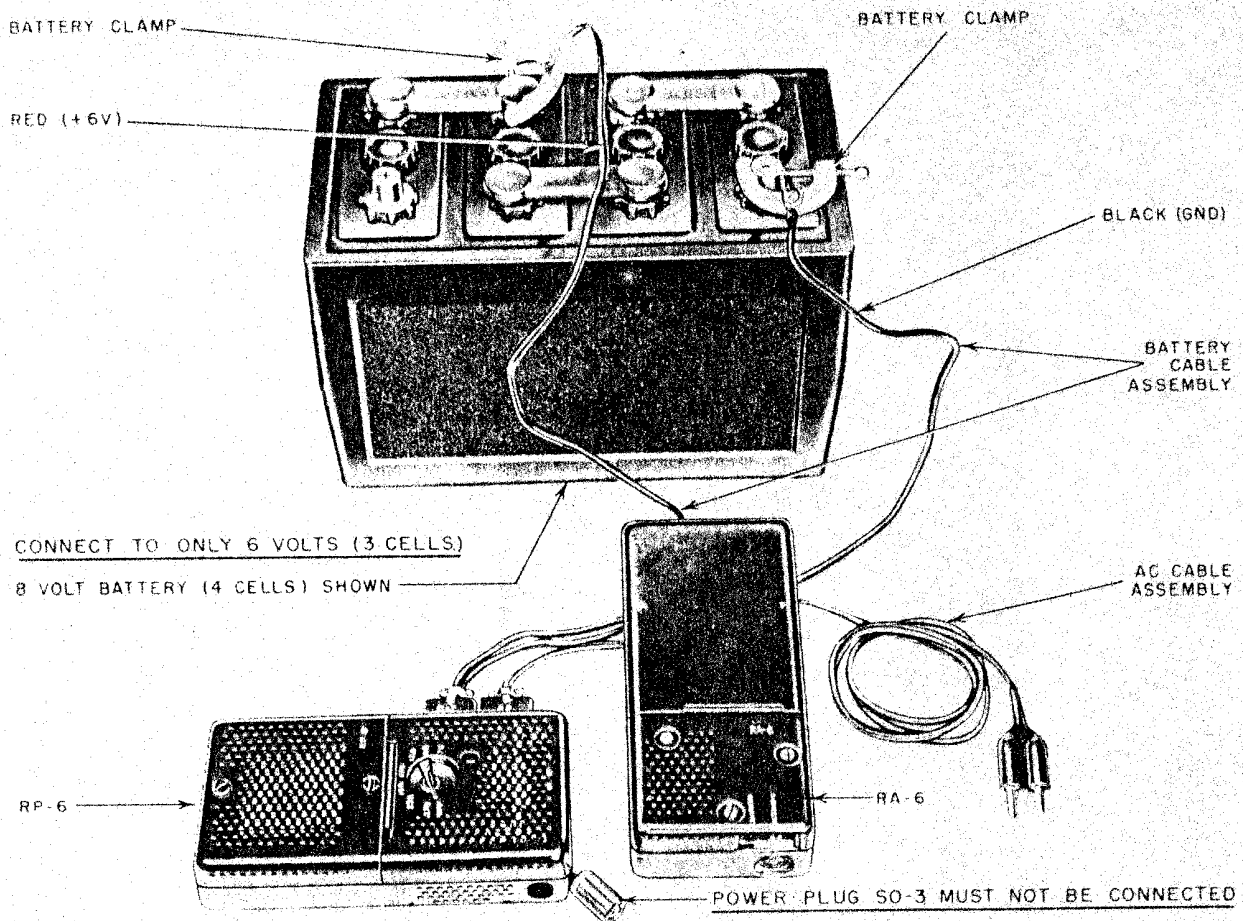

Figure 8. Radio Station RS-6A Battery Charging Hook-up.
c. Connect the equipment as follows: (See Figure 8.)